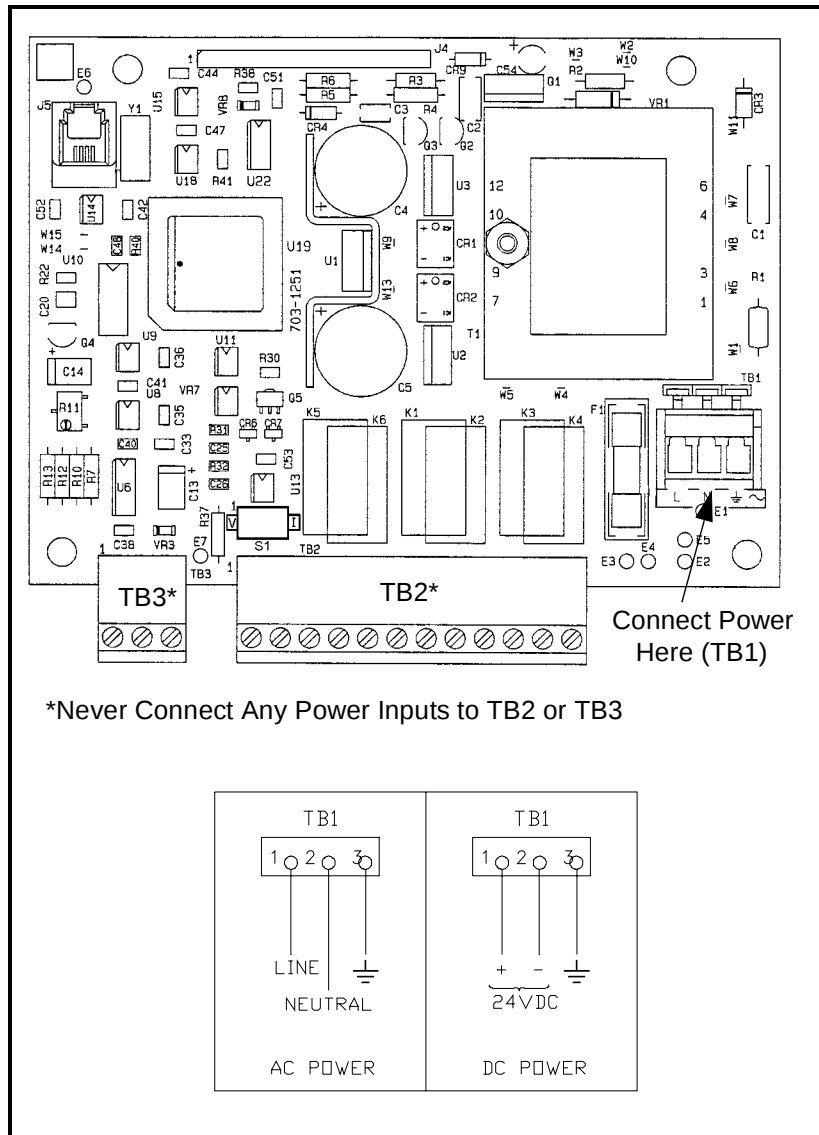

Figure 2-4: Power Connections to PC Board
5. Connect the power cable conductors as shown in Figure 2-4 on page 2-7. For each connection, depress the plastic cantilever at the appropriate position on terminal block TB1 and insert the bare conductor end.